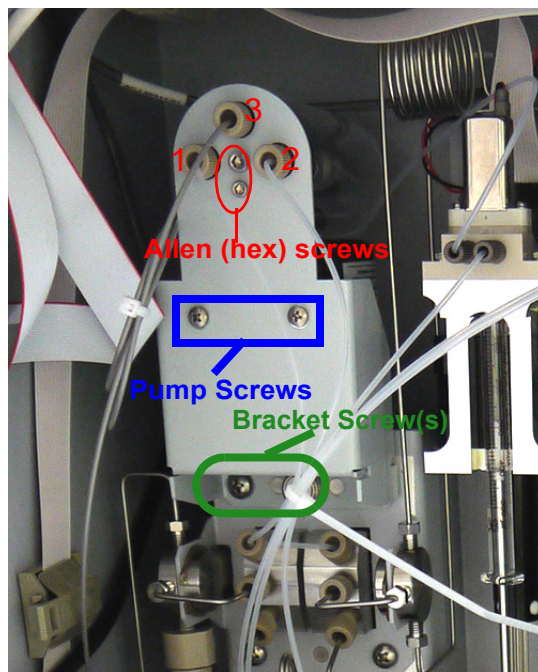

Figure 76: ICR Bracket
4. Remove the three knurled-nut tube connectors (1, 2, and 3 in Figure 76) from the degasser. (Note the orientation of the tubing for the reassembly process.)
6. Use a Phillips-head (cross-head) #1 screwdriver to remove the bracket screw (or two side-by-side screws) (Figure 76) securing the ICR bracket to the Analyzer.
7. Remove the two pump screws (Figure 76) in the center of the ICR bracket to release the pump.